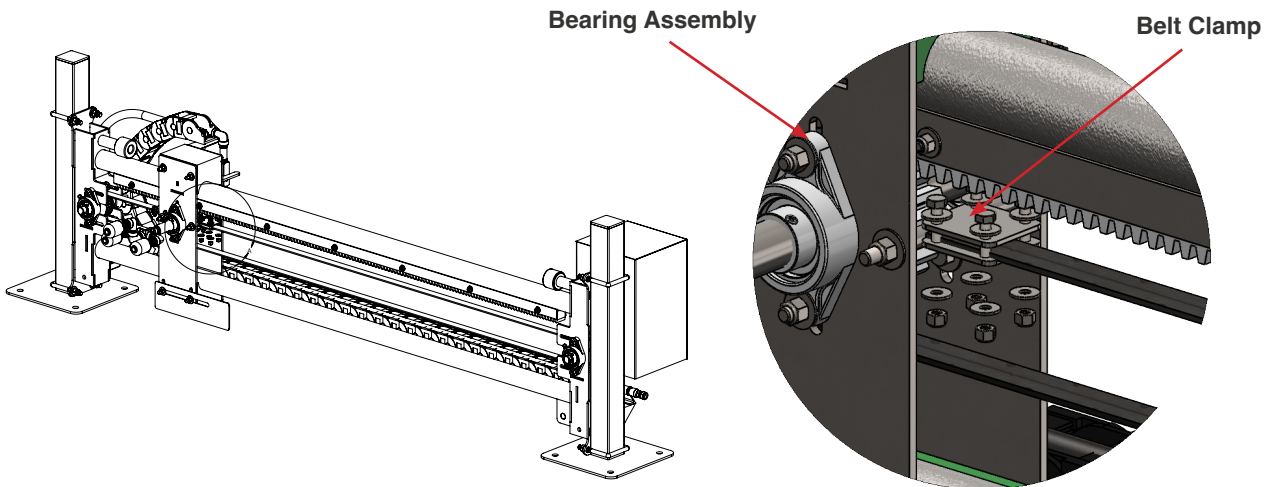

Fig. 7.2.1 - 1 - Belt removal
2. At the idler pulley, loosen the four nuts on the two plastic flanged shaft bearing assemblies (Fig. 7.2.1 - 1).